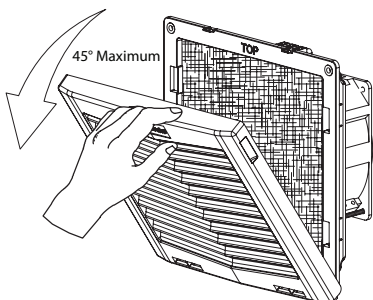
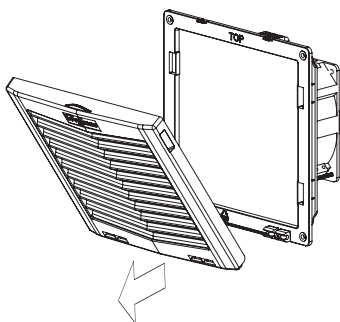

Figure 3
Figure 4
6. In order to install the mounting fasteners, removal of the grille is required. Remove the grille by pulling from the top of the grille to 45° maximum as shown in Figure 3 on page 4. Then pull from the bottom as shown in Figure 4 on page 4.